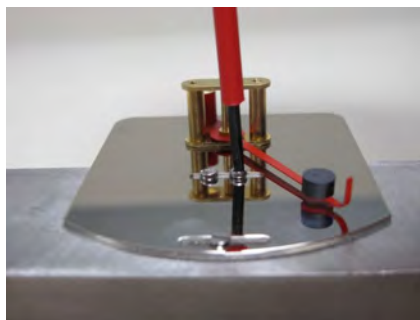

Fig. 62
13. ➤ Set the display base plate on the device body and lightly tighten the mounting screws, so that the base plate can still be moved (Fig. 62). Make sure that the